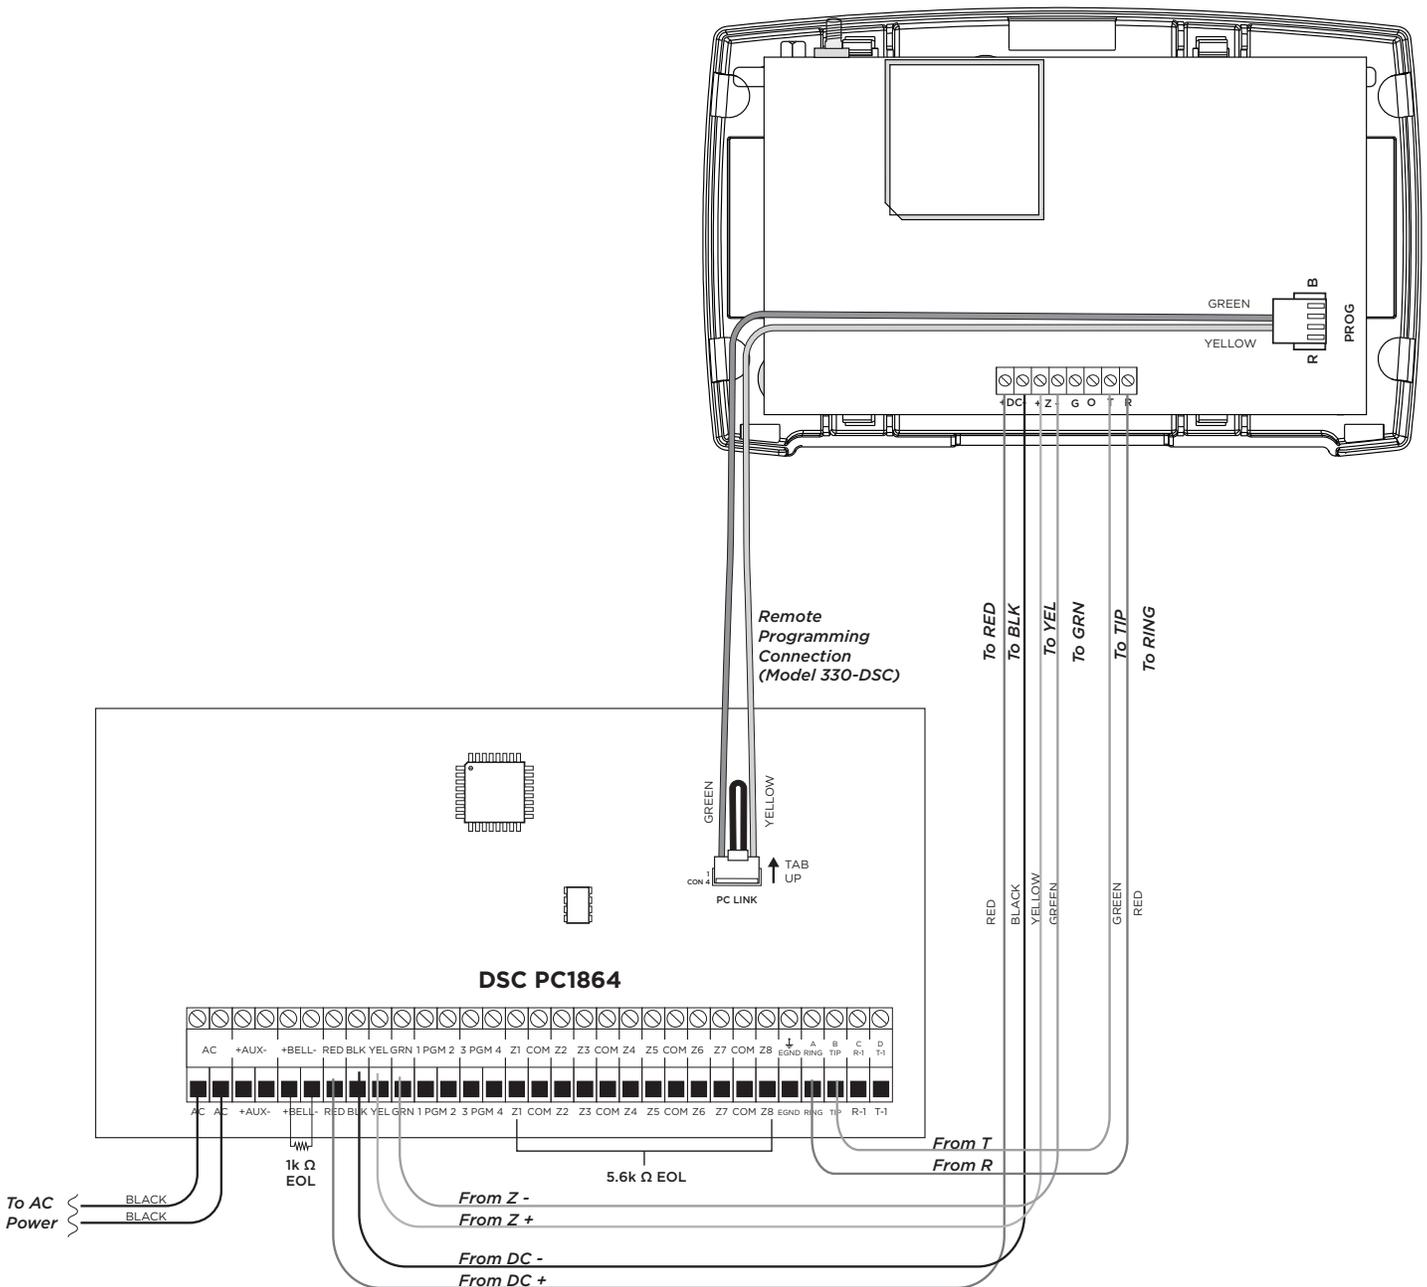

Figure 2: DSC Wiring
2. The communicator can be connected to the DSC Bus of a compatible DSC panel. See Table 1 and Figure 2 for the necessary wiring connections.